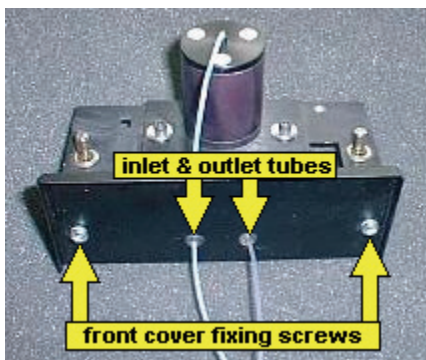

Figure 43 Fixing screws and tubing
1. Loosen the two front plate fixing screws and remove the front plate, gently feeding the inlet and outlet tubes through the grommets on the front plate, as shown in Figure 43.
9. Carefully feed the inlet and outlet tubes through the grommets on the front cover plate then re-secure the front cover plate using the two screws, as shown in Figure 43.